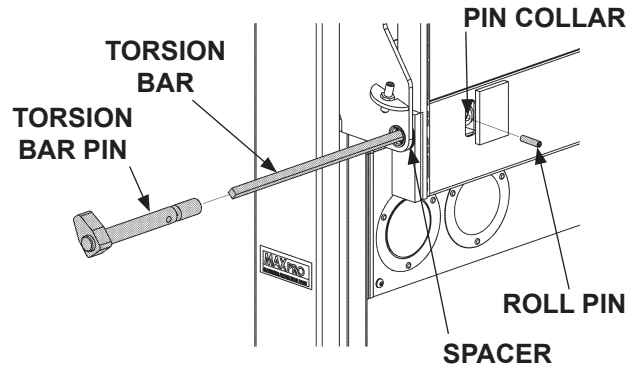
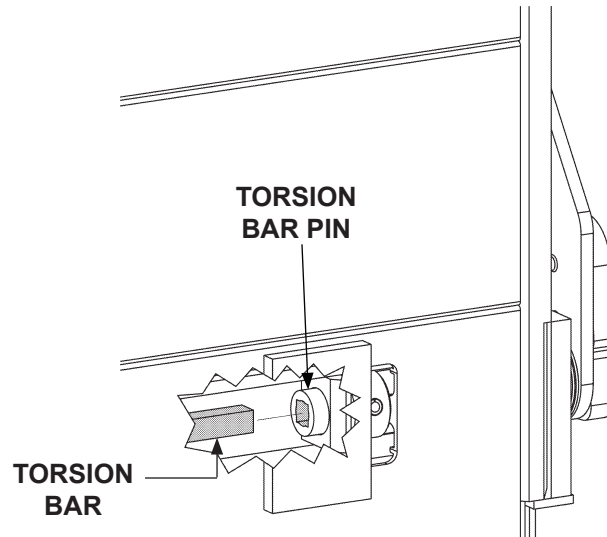

FIG. 20-1
FIG. 20-2
5. Insert torsion bar pin through LH runner, platform, spacer, and pin collar (**FIG. 20-1**). Then, rotate torsion bar to position shown (**FIG. 20-1**) and depending on platform, engage with torsion bar pin on RH side of platform (**FIG. 20-2**), or engage with torsion bar housing (anchor stop weldment, P/N 285799-01) as shown in **FIG. 20-3**.
6. Line up holes in pin collar and torsion bar pin (**FIG. 20-1**). Secure collar to torsion bar pin with roll pin.